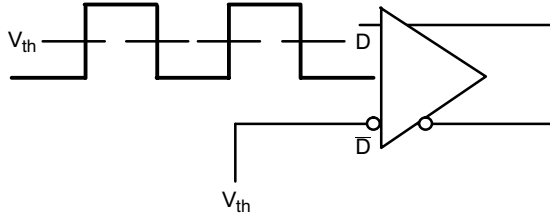

Figure 10. Differential Input Driven Single-Ended
**DIFFERENTIAL INPUT DRIVEN SINGLE-ENDED** (Figures 10, 12) (Note 14)
**DIFFERENTIAL INPUT DRIVEN SINGLE-ENDED** (Figures 10, 12) (Note 21)